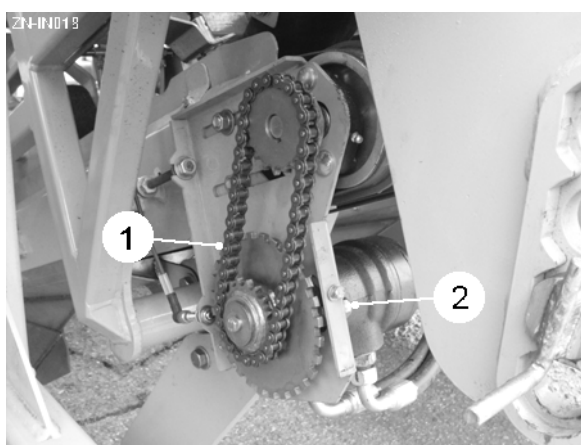

Fig 27
To tension the trough belt drive chain (item 1, fig 27), loosen the motor mounting bolts x2 (item 2, fig 27) and rotate the motor around the rear mounting bolt. It may be necessary to adjust the proximity sensor (see sensor adjustment).